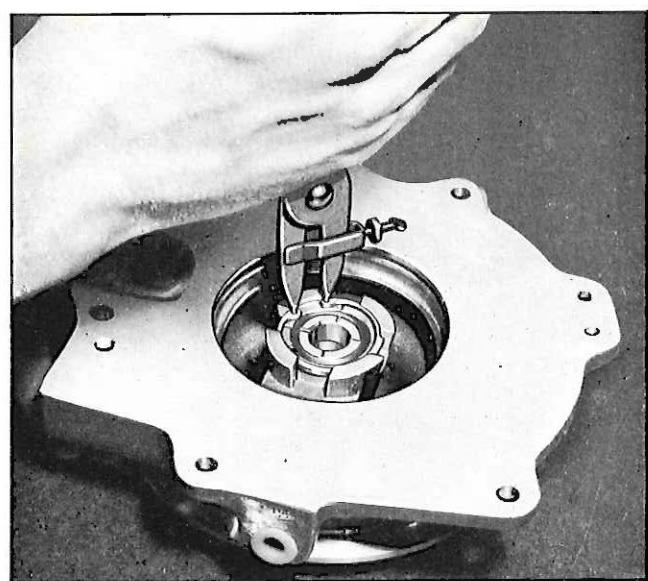

Fig. 25—Removing Bearing Retainer Ring
9. Remove the bearing retaining ring (fig. 25), then remove the bearing and shim.